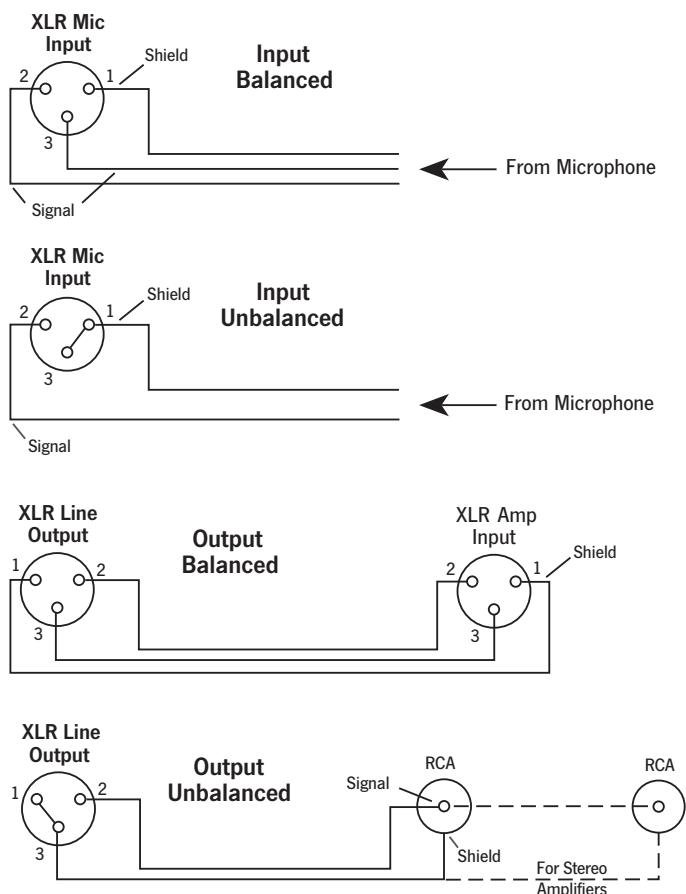

Figure 2.
The input section features I.C. balancing techniques to reduce hum and noise to very low levels while maintaining excellent balancing and input sensitivity. Naturally, if you want to use unbalanced microphones then it is simply a matter of connecting one of the input signal lines to earth (see figure 2).
- The output of the mixer has been designed to operate with power amplifiers equipped with a balanced input. If you wish to drive an unbalanced amplifier, then simply connect one of the output signal lines of the mixer to Earth, and use the other output (see figure 2).
3. Connect the mixer to an amplifier using a suitable cable. See figure 2, Connection Details.
For best performance when using long lines between microphones/mixer and or amplifier use balanced lines. These have the effect of cancelling out any noise or hum that may be induced into the cables. Note that a balanced line uses three wires (two signal wires and one earth wire or shield) where an unbalanced cable uses only one signal wire and an earth. See the connection details (figure 2) for wiring up plugs etc.